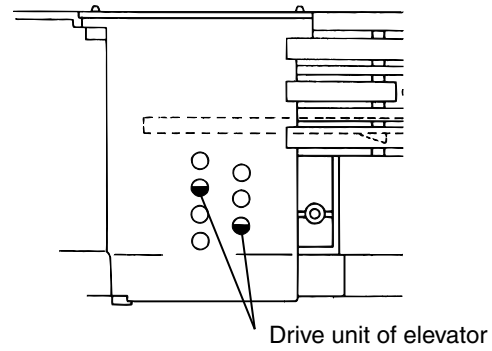
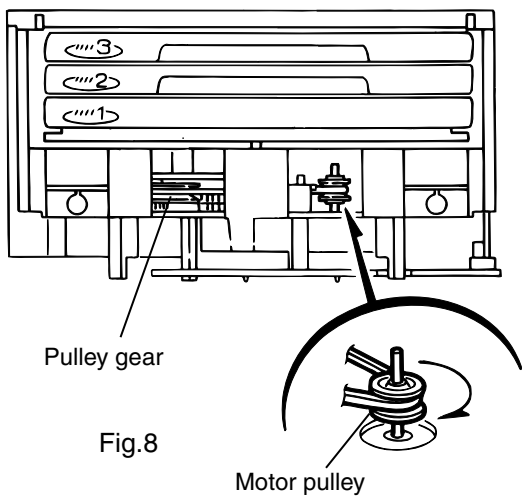

Fig.7
Fig.8
[Caution] In case the driver unit elevator is not at above position, set the elevator to the position as shown in Fig.7 by manually turning the pulley gear as shown in Fig.8.
10. Manually turn the motor pulley in the clockwise direction until the lifter unit stopper is lowered from the section **e** of DVD tray assembly(See Fig.8).